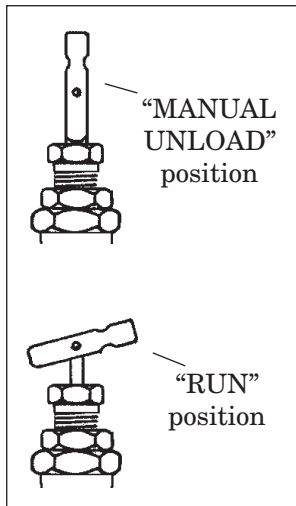

Fig. 4-2
*Note: Continuous Run Units - Prior to starting a continuous run unit, flip the toggle lever on the pilot valve stem to the "Manual Unload" position (see **Fig. 4-2**). Now the compressor can be started unloaded. Once the compressor is running at full speed, flip the toggle lever back to the "RUN" position.*